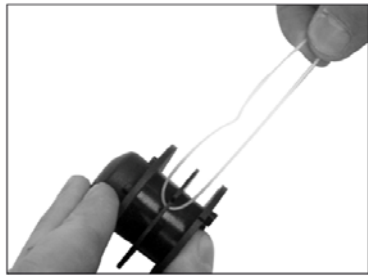

Fig. 10a
3. Find the midpoint of the trimmer line, fold the line double at the midpoint, and thread the line in the spool groove as shown in fig. 10a.